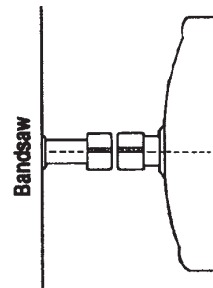

Fig. 6
5. Slide the Mark V headstock toward the Bandsaw until the two drive hubs are 1/4" apart, as illustrated in Fig. 6.